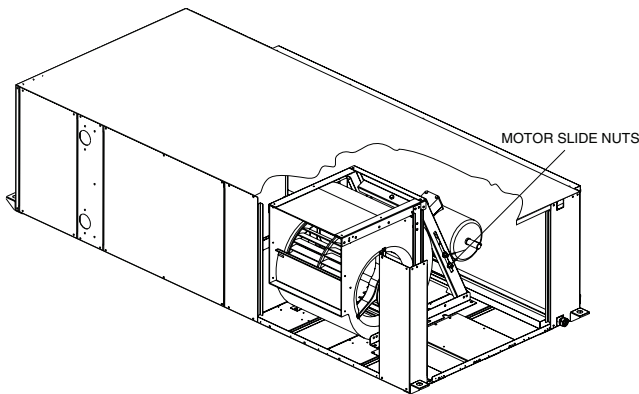

Fig. 7 — Removing Belt
2. Loosen 2 motor slide nuts, raise motor slide assembly and remove belt and motor sheave. See Fig. 7.